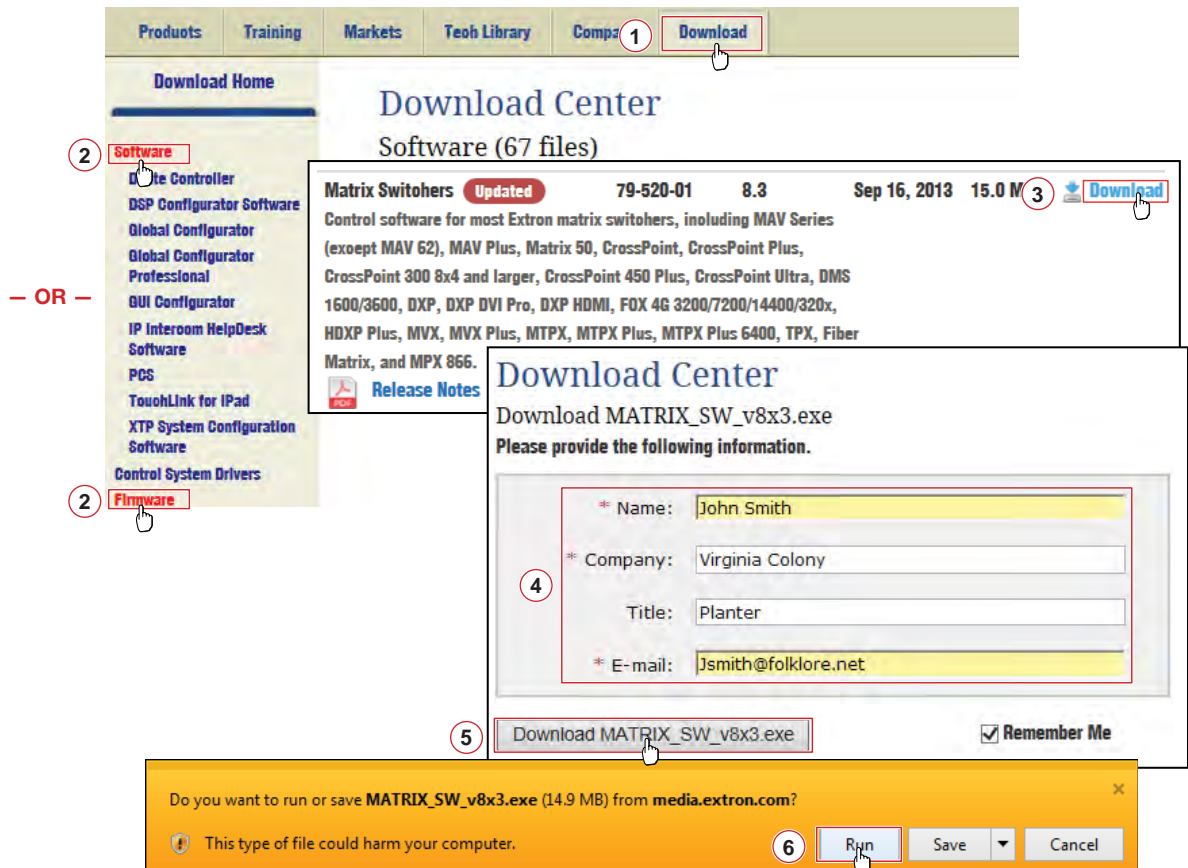

Figure 61. Downloading a Software or Firmware Package
1. Visit the Extron website, www.extron.com, and click the **Download** link (see figure 61).